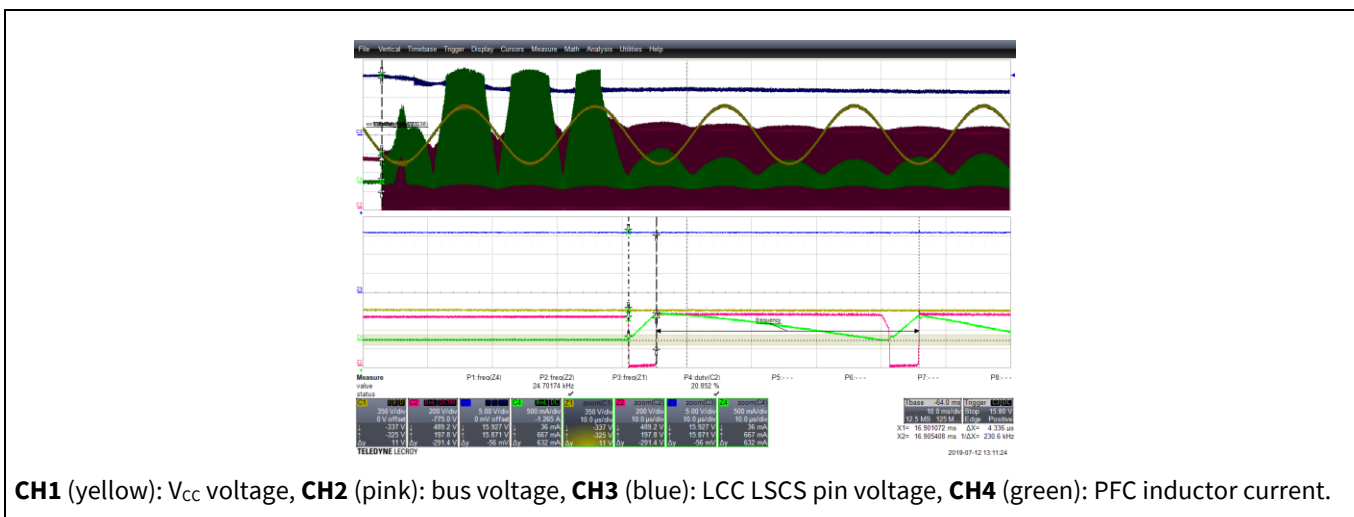

Figure 15 Start-up process at 380 V_{rms} with full load (48 V LED, 3 A)
Figure 15 illustrates this start-up process at 380 V_{rms}. In the process of gradual on-time increase, the boost inductor current will be limited by IC threshold and Current Sensing (CS) resistors between the PFCCS pin and ground.